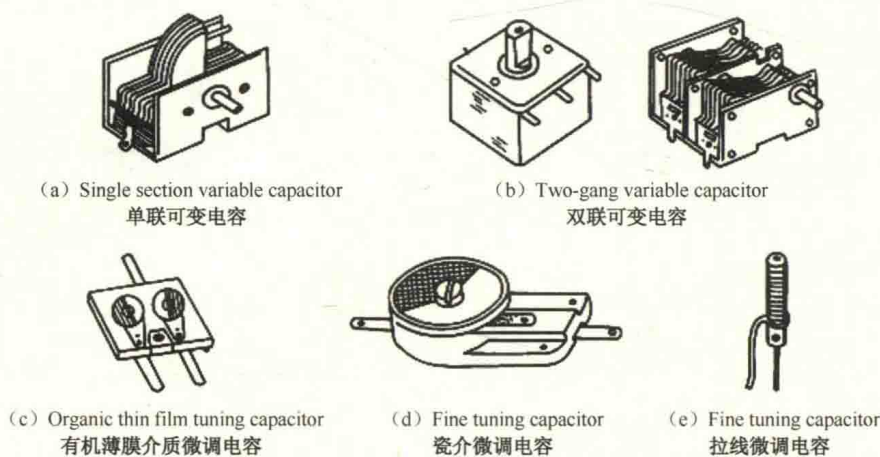

Figure 1.10 Common Various Types of Adjustable Capacitors 常见可变电容的外形
2) Adjustable Capacitor 可变电容 (Figure 1.10)